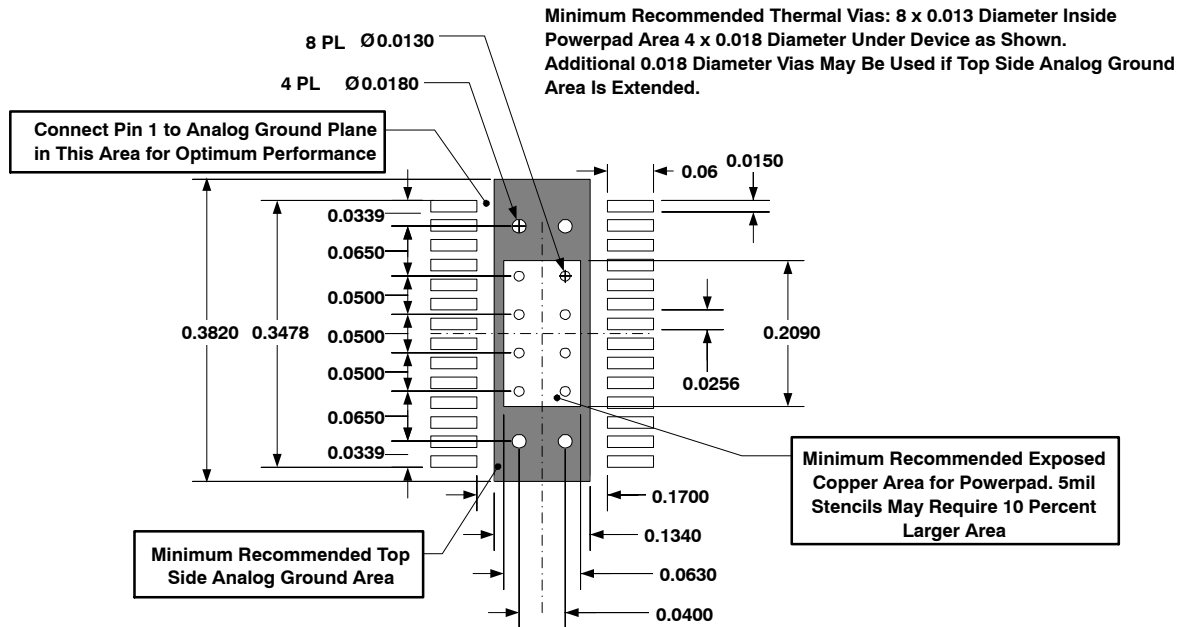

**Figure 9. TPS54880 PCB Layout**
(1) Specified by design
(2) Static resistive loads only
(3) Specified by the circuit used in Figure 9
(4) Matched MOSFETs low-side rDS(on) production tested, high-side rDS(on) specified by design
Figure 9 shows a generalized PCB layout guide for the TPS54880.